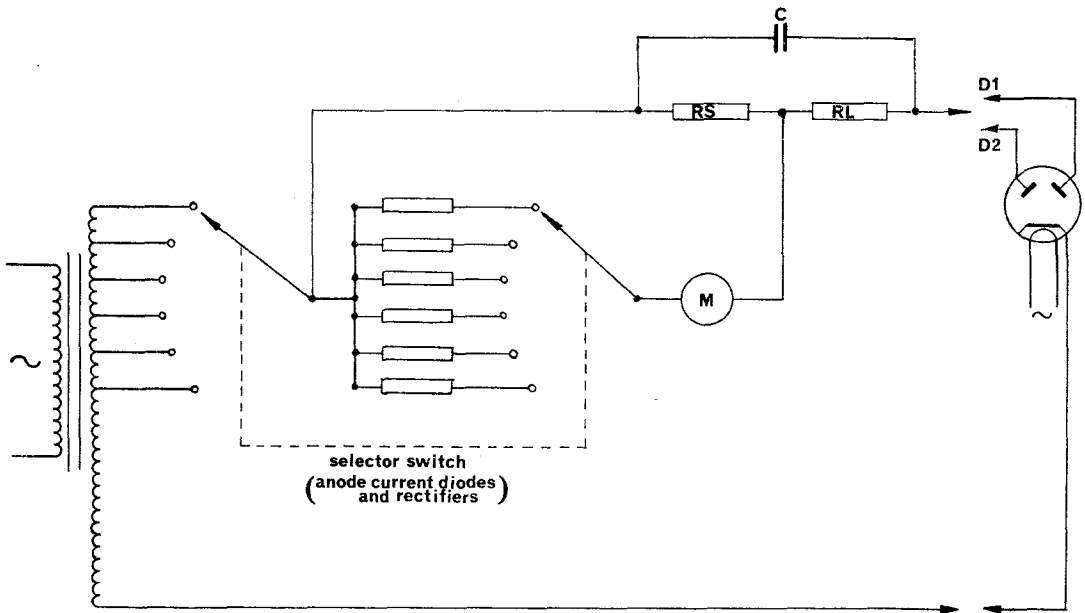

Fig. 4 Simplified circuit for CT160 emission tests on rectifiers
24. **Emission tests—rectifiers and diodes.** The simplified circuit for this test is shown in figure 4. The rectifier under test is loaded with the resistors R_s and R_L in series and a reservoir capacitor C . An a.c. voltage is applied of sufficient amplitude to operate the rectifier over the linear part of its characteristic so that the circuit will pass a rectified current equal to the maximum load current of the valve. The meter measures this current by reading the voltage developed across R_s and is scaled by the appropriate range resistor so that the current selected on the I_a switch will deflect the pointer to the centre of the 'good' zone of the scale. Switching of the applied voltage and the range multiplier is ganged so that rectifier test currents of 1mA, 5mA, 15mA, 30mA, 60mA, and 120mA, per anode are available. Each anode of a full wave rectifier is tested separately and the 1mA and 5mA positions can also be used to test signal diodes.